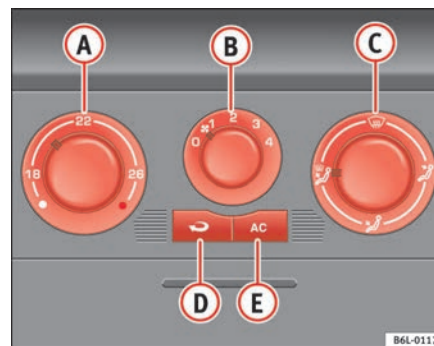

Fig. 94 On the instrument panel: air conditioning controls
- Using the controls \Rightarrow fig. 94 A and C and with the switch B you can set the temperature, air distribution and the blower speed.
- Close outlets ③.
- Open and turn outlets ④ towards side windows.